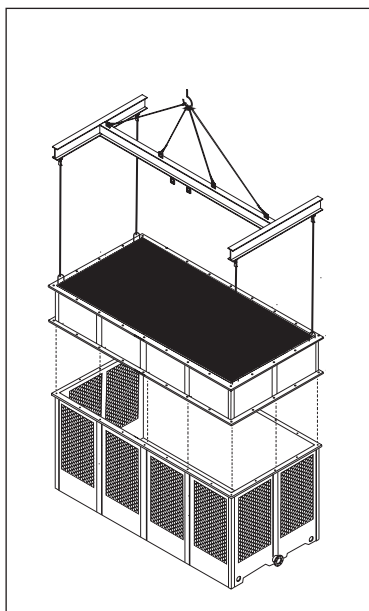

Figure A-56: Lower body section assemble for a Modular Tower (RTM-D)
- J. **Only for RTM-D models:** Assemble Lower Body section #1 on top of basin section #1, make sure that the bolt holes on Lower Body section #1 are aligned with the perforations on basin section #1, then bolt down and secure the horizontal flanges with the stainless steel nut and bolt sets supplied by REYMSA (see Figure A-56).